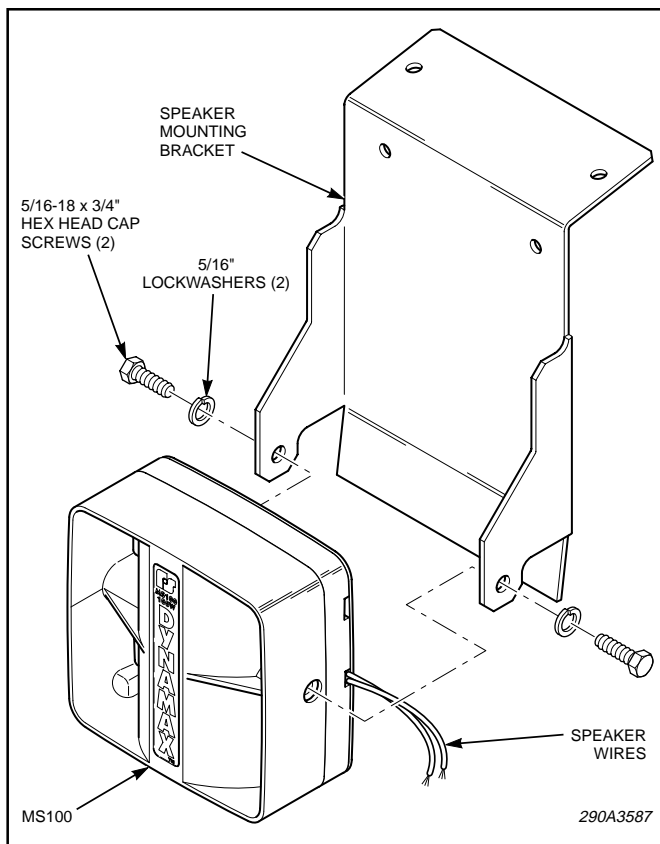

Figure 2.
c. See figure 2. Assemble the bracket to the speaker using the bolts and lockwashers supplied. Adjust the front of the speaker so that it is parallel with the leading edge of the mounting bracket, and tighten the bolts securely.